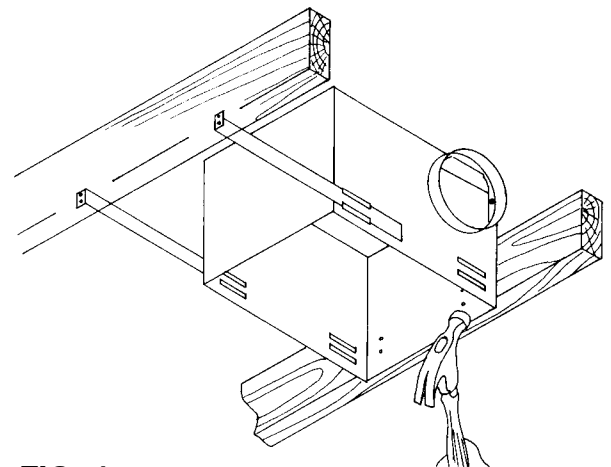
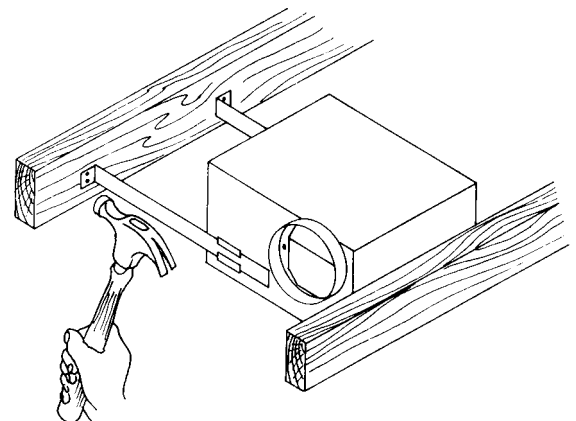

FIG. 4
FIG. 5
3. Insert mounting brackets with angle pointing away from housing. Position housing into ceiling location. Housing is stamped to show a line at 3/8" for drywall and 3/4" for standard sheetrock and plaster. Fasten securely through mounting holes provided in housing. (Fig. 4.) Pull mounting brackets against adjacent ceiling joist and fasten securely. (Fig. 5.)